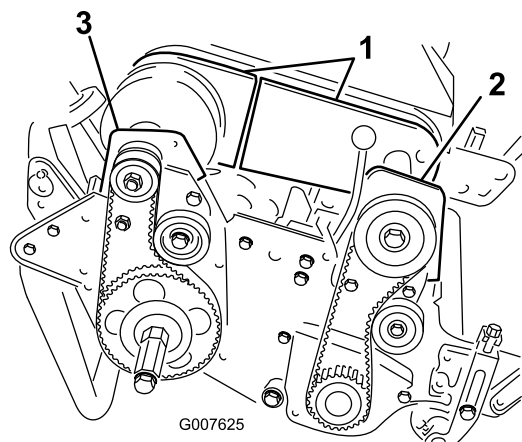

Figure 41
4. Remove the bolts securing the front and rear sections of the differential cover to the differential housing and slide the cover sections away to expose the belt (Figure 41).
8. Remove the 2 bolts and locknuts securing the right rear bearing housing to the side plate (Figure 41).
6. Remove the 2 bolts and locknuts securing the front clutch housing to the side plate (Figure 41).